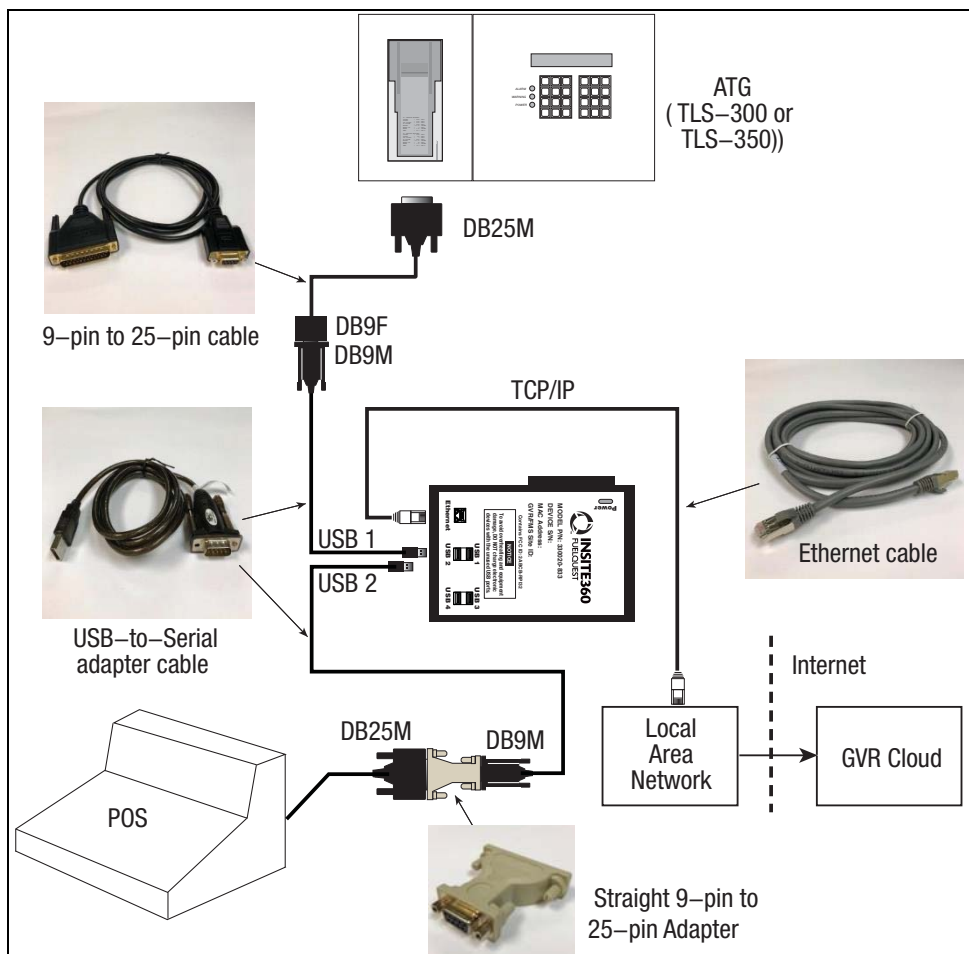
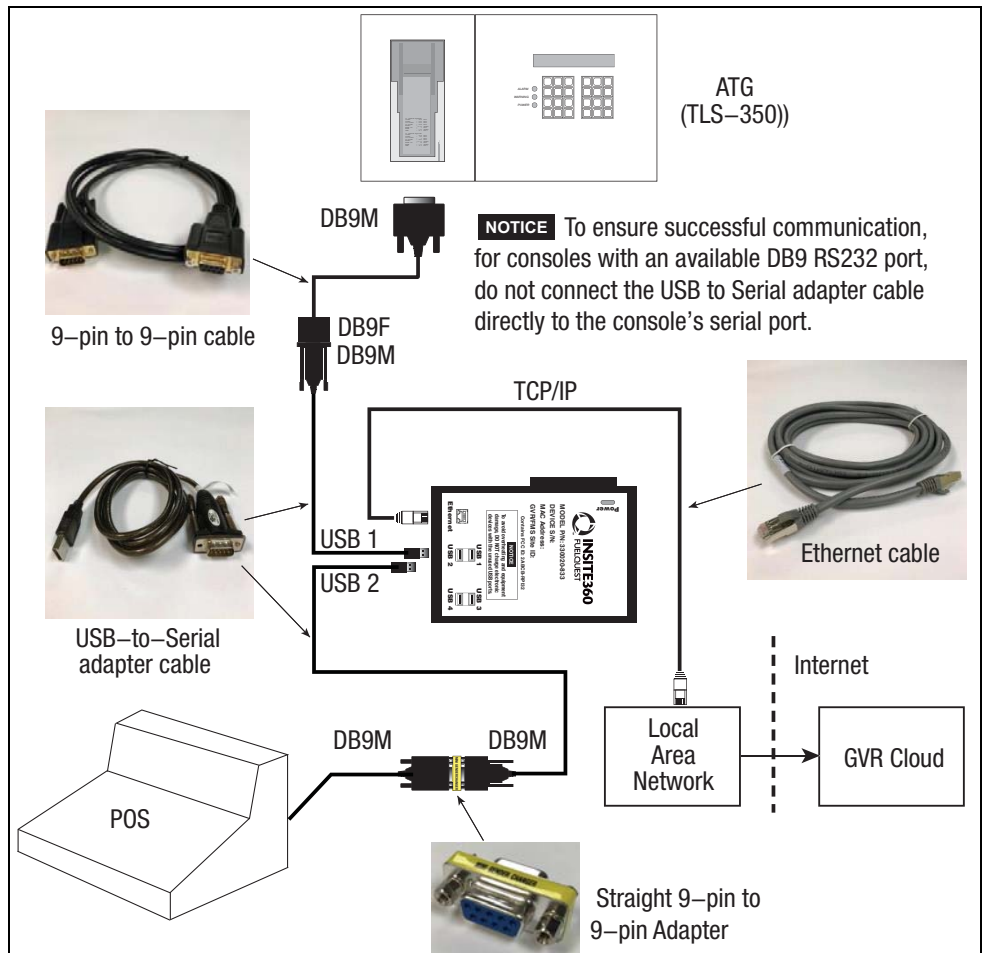

Figure 5. Scenario 3 Insite360 Connect Hookup - TLS-3XX With DB25 Serial Comm Port And POS
Figure 6. Scenario 3 Insite360 Connect Hookup - TLS-350 With DB9 Serial Comm Port And POS
2. Plug the end of this POS cable into either the DB25F end of the DB25 female / DB9 female mini gender changer adapter (if the POS cable end is a DB25M, see Figure 5) or into either side of the DB9 female / DB9 female mini gender changer adapter (if the POS cable end is a DB9M, see Figure 6). Both adapters are included in the 330020-834 kit.
5. Connect the Insite360 Connect's USB 1 Port to the RS232 serial comm port on the ATG, using the USB to Serial Adapter cable connected to either the DB9 female / DB9 male 6' cable (Figure 5) or the DB9 female / DB25 male 6' cable (Figure 6), depending on the ATG's available serial port connector type.